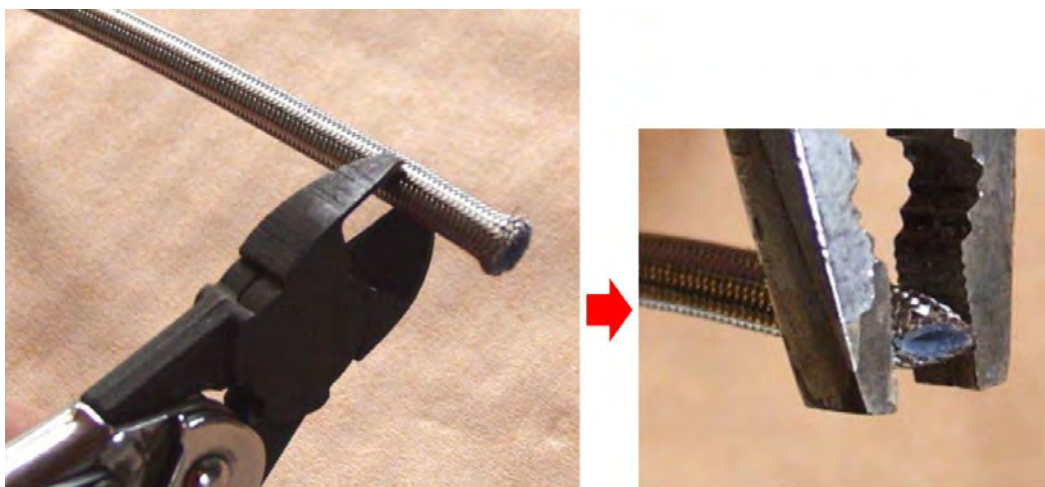

FIGURE 15-15
2. Clean any debris from cut end and gently reshape back to circular section with a pair of pliers (see Figure 15-15).